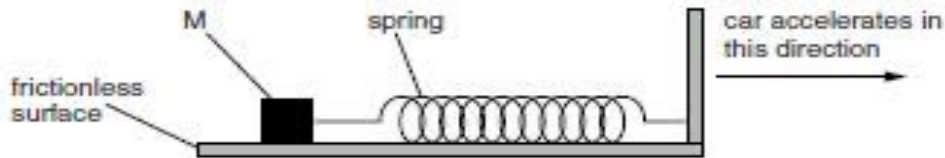

Fig. 1.2 (not to scale)
- (c) The spring is attached to a mass M of 0.20 kg and placed on a frictionless surface, as shown in Fig. 1.2.